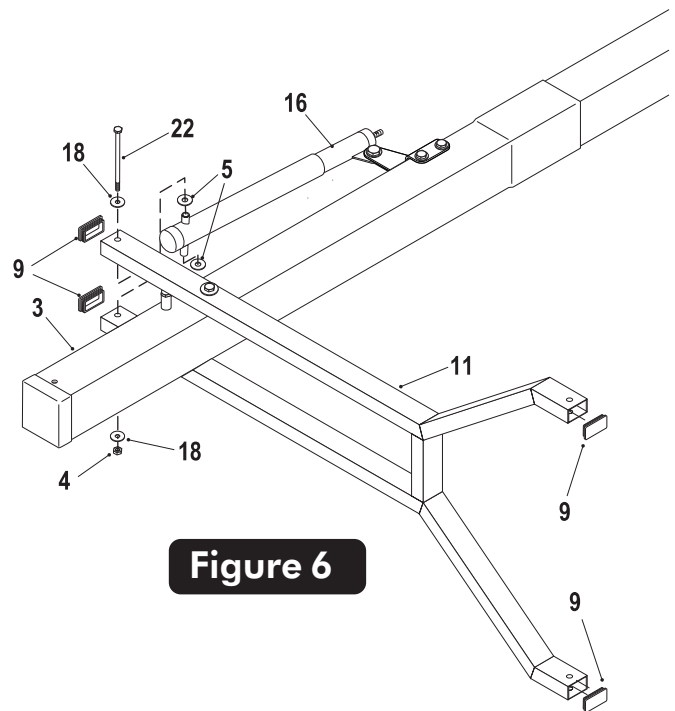

Figure 6
9. Secure Actuator (#16) to Lower Arms (#11) using one bolt (#22), two flat washers (#18), two plastic washers (#5) and one lock nut (#4). See Figure 6. Tighten both bolts (#22) securing Lower Arm (#11).
10. Insert four Tube Plugs (#9) into open ends of Lower Arms (#11). It may be necessary to use a rubber mallet to tap them in. See **Figure 6**. **Note:** Tube plugs may be pre-installed by the factory.